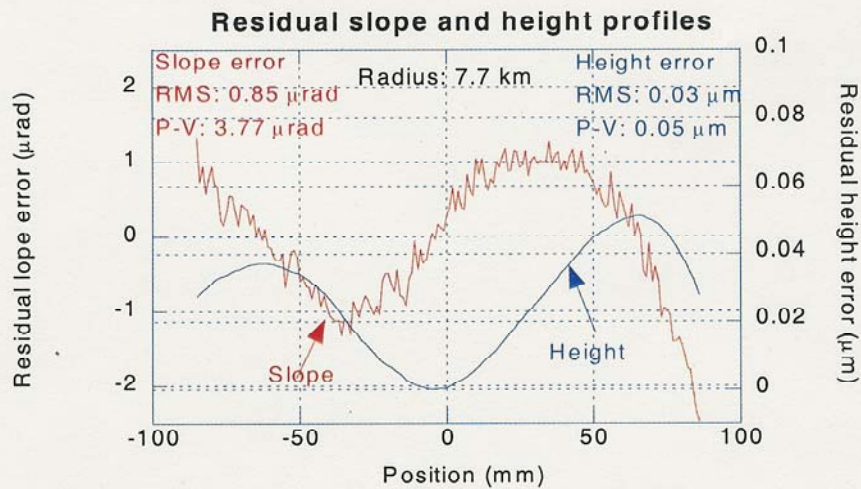

Figure 2. Residual slope profile (red curve) and the corresponding residual height (blue curve). The mirror shows a radius of curvature of 7.7 km.
- Figure 2 shows the residual slope and height profiles.